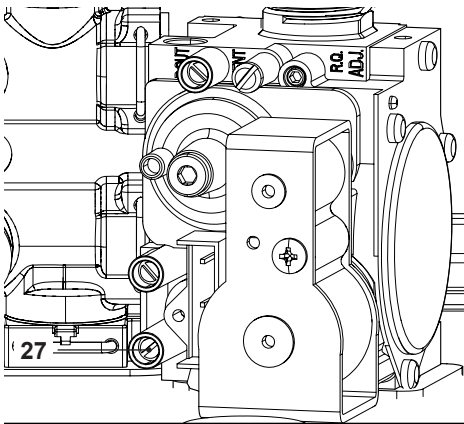

Fig. 7.8
- With the boiler switched on at full rate (maximum output power), check the supply pressure by using the 27 point in Fig. 7.8 and compare the value with that reported on the Gas supply pressure table (minimum inlet pressure) in section "Technical data DINA 25C (M280C.2025 SM)" on pag. 24, "Technical data DINA 30C (M280C.2530 SM)" on pag. 28 and "Technical data DINA 35C (M280C.3035 SM)" on pag. 32.
- Ensure the test nipple 27 in Fig. 7.8 is firmly closed.